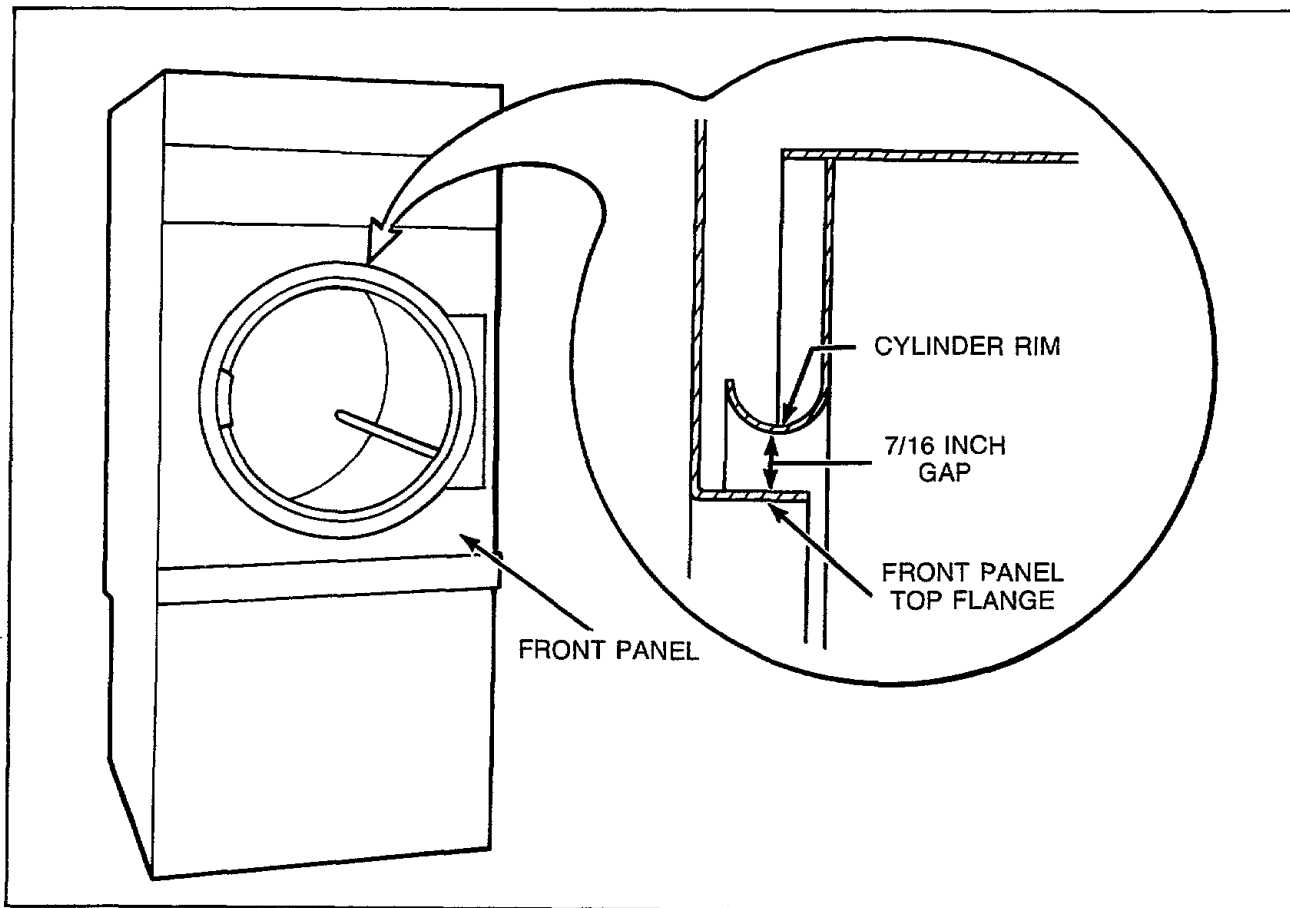

Figure 37
**NOTE:** The gap should be 7/16 inch, *Figure 37*.